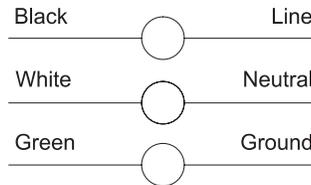

Fig 2
2. Connect the wires. (Fig 2 & 3)